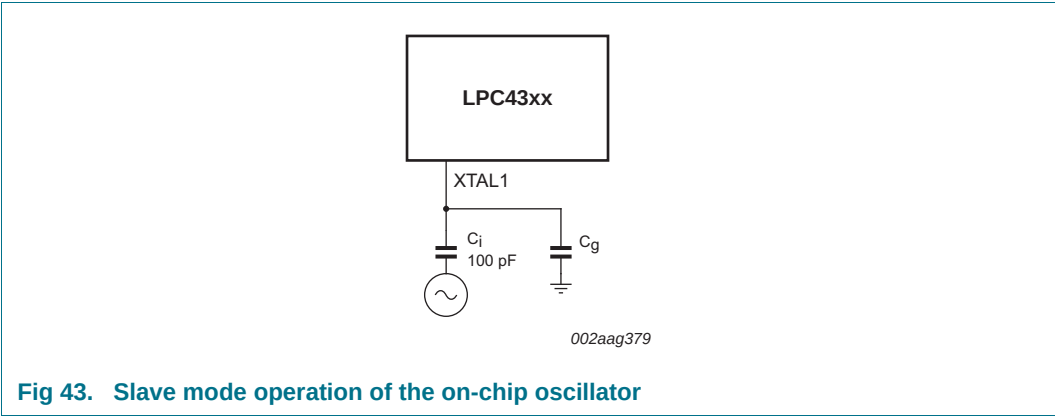

Fig 43. Slave mode operation of the on-chip oscillator
- In slave mode, couple the input clock signal with a capacitor of 100 pF (C_C in Figure 43), with an amplitude of at least 200 mV (RMS). The XTAL2 pin in this configuration can be left unconnected.
An external clock can be connected to RTCX1 if RTCX2 is left open. The recommended amplitude of the clock signal is $V_{\text{i(RMS)}} = 100$ mV to 200 mV with a coupling capacitance of 5 pF to 10 pF. $V_{\text{i(RMS)}}$ must be lower than 450 mV. See Figure 43 for a similar slave-mode set-up that uses the crystal oscillator.